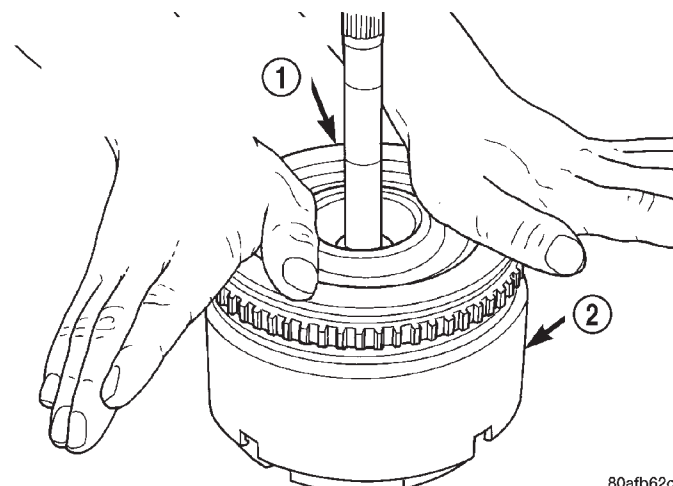

Fig. 259 Install Input Shaft Hub Assembly
(5) Install the input hub/shaft assy. to the OD/Reverse piston/clutch retainer assy. (Fig. 259).